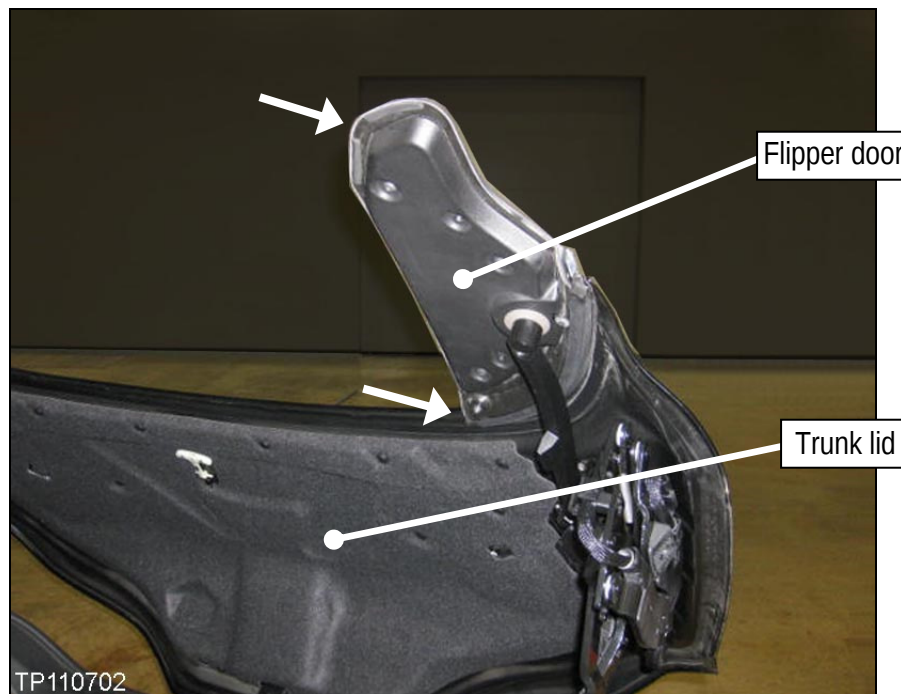

Figure 36f
37. Next, fully close the roof, and then proceed to open the roof until the trunk lid is in the position shown in Figure 36f.